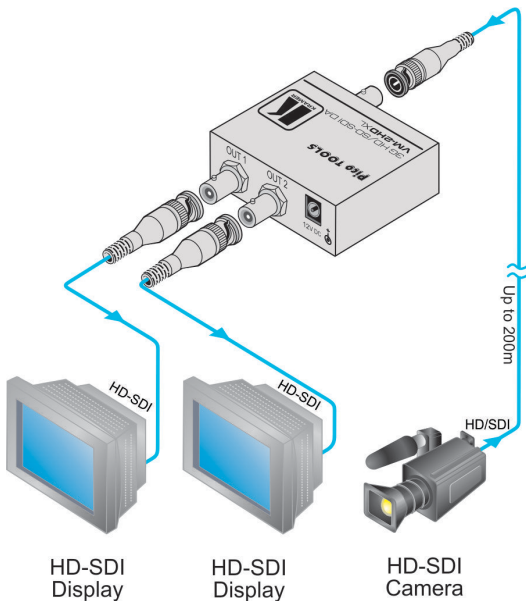

Figure 2: Connecting to the VM-2HDxI
To connect the **VM-2HDxI**, as the example in Figure 2 illustrates, do the following:
3. Connect the 12V DC power adapter to the power socket and connect the adapter to the mains electricity (not shown in Figure 2).